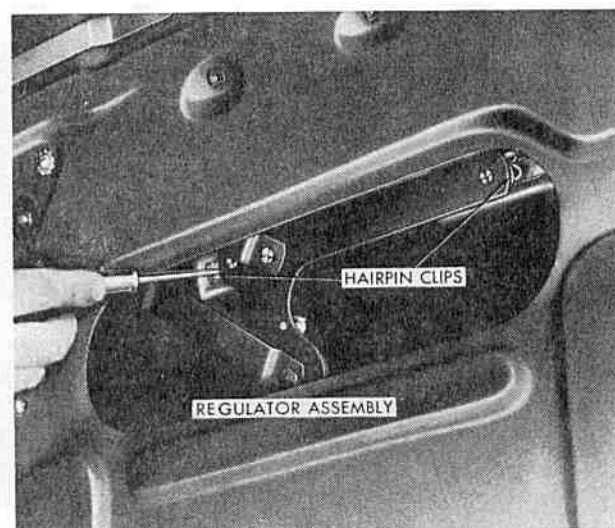

FIG. 14
**DOOR WINDOW GLASS** With the window glass fully lowered, use a punch to remove the two hairpin clips and washers holding the regulator arm to the door glass lift channel (see Fig. 14). Then pull the regulator rollers out of the lift channel slots, turn the glass approximately 45° clockwise, and remove the glass from the door (see Fig. 15).